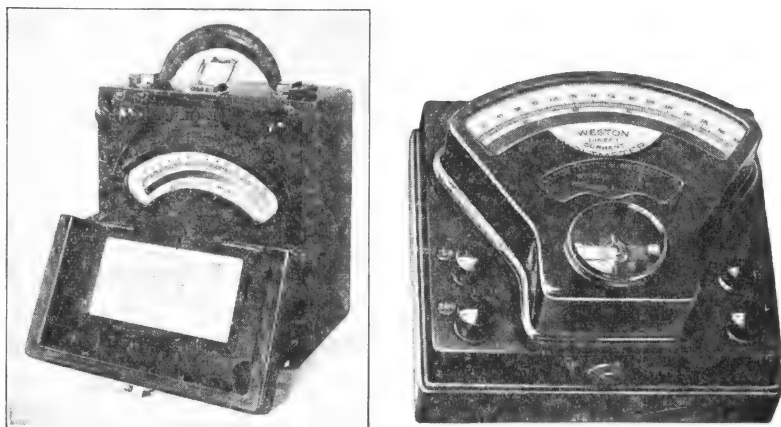

Fig. 6. Two Types of Voltmeters
**Use of the Voltmeter.** A voltmeter, Fig. 6, is used to measure voltage or potential difference. It is connected across the line between the two wires of the circuit, the potential difference of which it is desired to measure. Voltmeters are of relatively high resistance. A standard instrument having a full-scale deflection (maximum scale marking) of 15 volts has a resistance of approximately 1500 ohms. An instrument suitable for a maximum scale reading of 150 volts has a resistance of approximately 15,000 ohms. Fig. 6 shows two types of voltmeters.